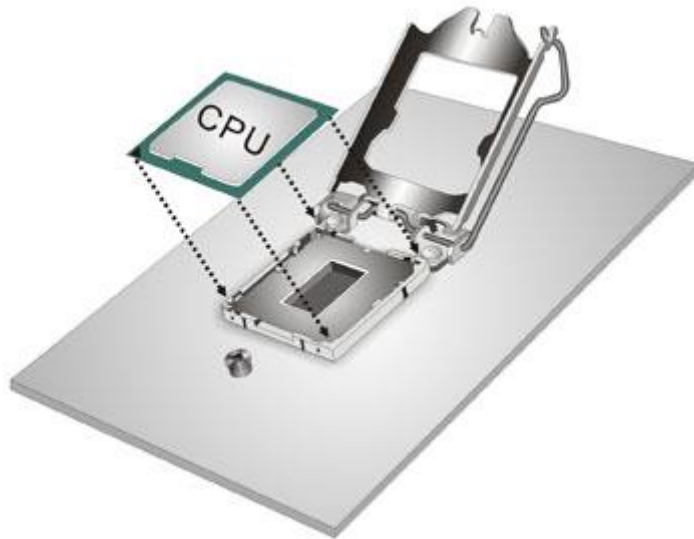

Figure 4-3: Insert the Socket LGA1151 CPU
- Step 7: Insert the CPU.** Gently insert the CPU into the socket. If the CPU pins are properly aligned, the CPU should slide into the CPU socket smoothly. See **Figure 4-3**.